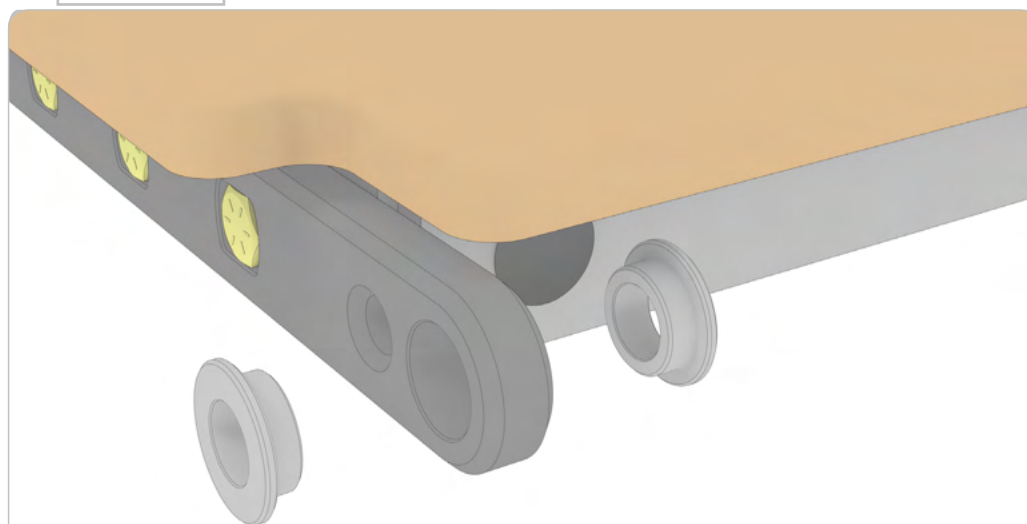

FIG 79
**6.1 Attach Pivot Bushings to Bed Frame:** Insert **Pivot Bushings** into each of the arms of the **Bed Frame** in the orientation shown in FIG 79.